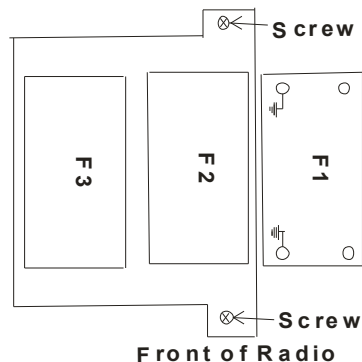

Figure 2.10-1 Filter Location Showing Ground Orientation
8. Locate the F1, F2, F3 slot to insert the specific filter. Refer to Figure 2.10-1. This is according to the filter slots on the circuit board text. The order is shown on the circuit board as F1, F2, F3 going from right to left toward the center of the radio. The ground pins are easily distinguished